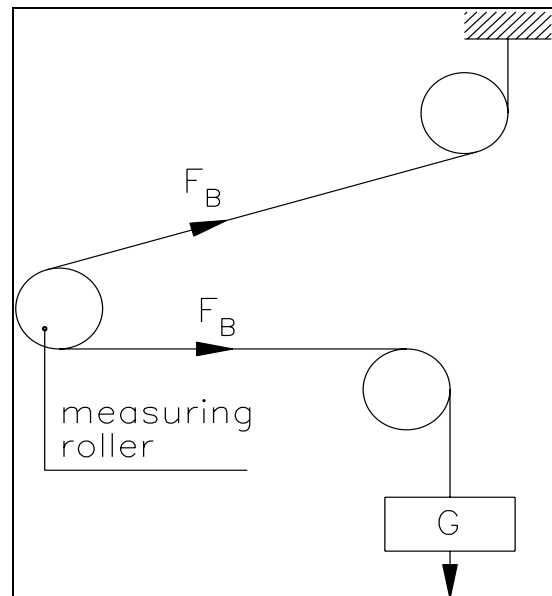

fig. 10: Calibrating the measuring amplifier
The following instructions are referring to a setup and calibration on-site. The material tension will be simulated by a weight (fig. 10). Offset and Gain calibration is done within the PLC or the master computer.
- Load material or rope with a defined weight (fig. 10)
The following instructions are referring to a setup and calibration on-site. The material tension will be simulated by a weight (fig. 10).